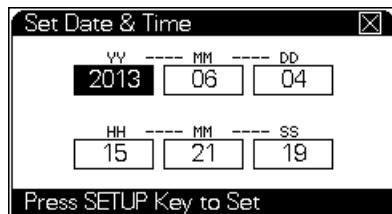

Figure 17 The Set Date & Time screen
- b The **Set Date & Time** screen opens. This screen displays the current year, month, day, hour, minute, and second (see Figure 17). Press the arrow keys to highlight the proper cell, then press [**Setup**] to select it.